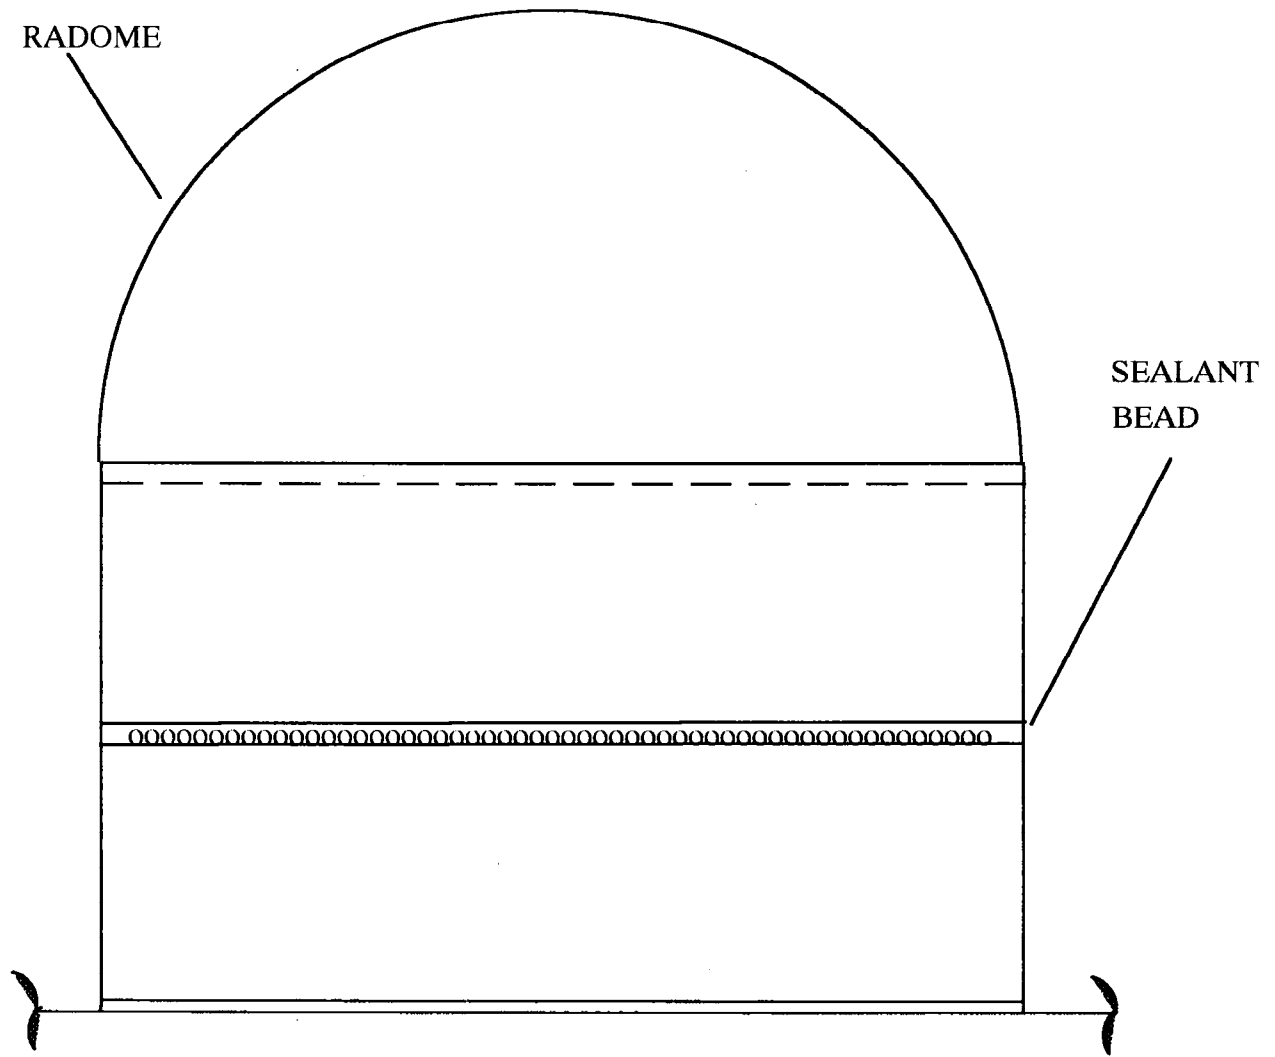

Figure 1. Radome, Without shrink Sleaving
- (1) Refer to IETM for RFI radome removal.
- (2) Apply alcohol on sealant bead around radome using cotton swab (see Figure 1 ).